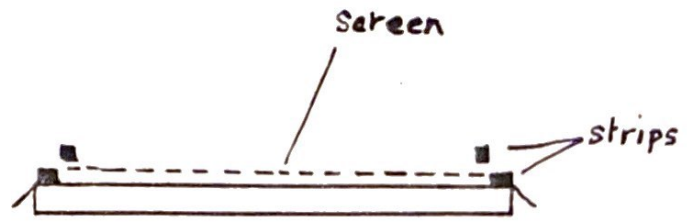

Fig. 6
- 2) Take 4 strips of this wood and nail to the outer edges of the frame face - to make a stepped profile. (see fig.6)